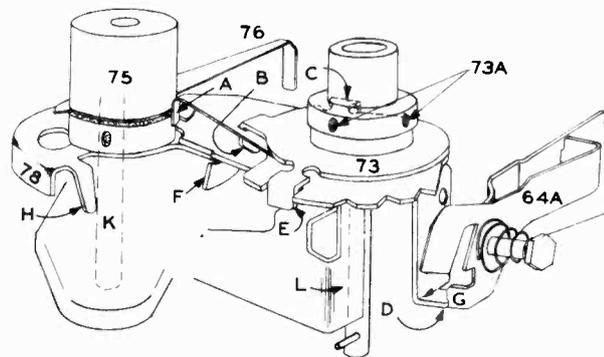

Fig. 4
The pickup arm should set the needle down at or just outside the "lead-in" groove of the record, regardless of the size of the record. The group of parts illustrated in Fig. 4 are all inter-related so it is advisable to follow a set routine when checking for the proper needle set down positioning. At the factory the following routine is followed:
the adjusting screw (78B) and move the adjusting ear so it just touches the 12" index adjusting ear (B of 73). See Fig. 4. Tighten the adjusting screw (78B) to hold the ear in this position.
1. Lip (D of 73, Fig. 4) should engage G of 64A by only about $\frac{3}{32}$ ". If it is difficult for G to clear D, the movement of the pickup arm will not be properly controlled and erratic "Indexing" will result. Bend D, if necessary, to permit smooth, easy separation of these two parts.
1. No detent in end of finger D of (73). (See Fig. 4.)
3. Finger A of (73) bent so it does not stop and hold the velocity trip arm.